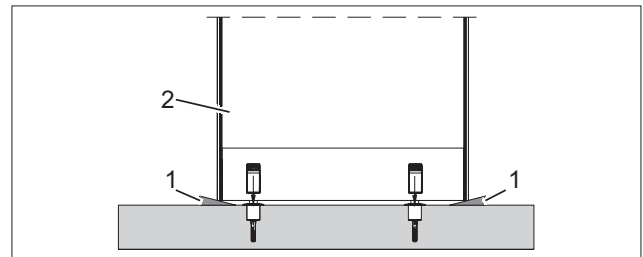

Fig. 37 Wedging the folding panel
1. Align the face-mounted slide bolt on the folding panel (Fig. 37/2) with the eccentric bushing. Afterwards, wedge the folding panel on both sides (Fig. 37/1) to affix the folding panel.